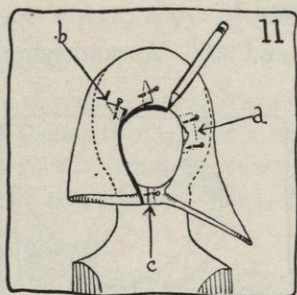
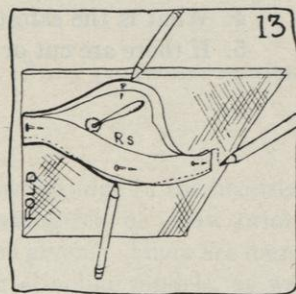

FIG. 11.
FIG. 13.
- (3) Put a pleat in the bias to remove fullness, or slash it and lap it (see Figures 23 and 24 in Job 7, page 28; also see point *b* in Figure 11).
- d. Pin the lap where desired (see point *c* in Figure 11).
- (1) Should you find that in spite of great care your edge is a little uneven, you may straighten the line by pinning on a piece (see point *a* in Figure 11, and Figure 29 in Job 7, page 30).
h. Finish the headsize (see Job 7, Section 4 *k*) and look closely at Figure 33 A, B, and C of that job (page 31); also see penciled line in Figure 11 page 40.
(1) Mark direct back, front, and sides and all folds indicating drapes.
(2) Remove brim from crown.
(3) Fold in half on center front (see Figure 13).
(4) If both halves of the brim when folded on center front line are not exactly alike, carry out the following directions:
(a) Lay center front fold on bias fold of fresh crinoline (see Figure 13).
(b) Trace all of the way around the larger edges of brim (see Figure 13) and through lines for draped parts. (See tracing wheel in Figure 13.) The larger edge is traced in this way because, when the turban is redraped, it is always easier to cut off a little than it is to add on again.
(c) Draw a dotted line 1 inch away from each side of the lap (see Figure 13). This is done because you may need a little more crinoline when repinning the brim to the crown.